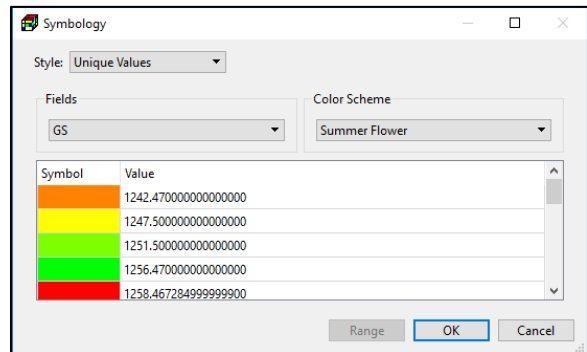

Figure 11. The Symbology dialog box - Unique Values
2. **Unique Values** (Figure 11): PM can assign a color to each unique value within a selected value field. For example, if a shapefile were to have a value field for land use, a different color could be selected to represent each type of land use (i.e. residential, commercial, agricultural, etc.).